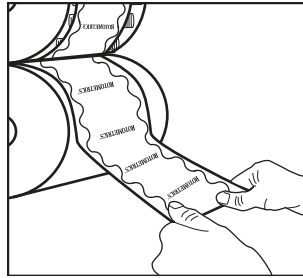

Fig. 4
2. To remove the UniFlex Counter Force carefully peel it off the counter force anvil (Fig. 4). The UniFlex Counter Force is intended for single-use but additional Counter Forces may be ordered at any time. It is important to clean the counter force anvil afterwards with isopropyl alcohol to remove any tape residue and then properly store the counter force anvil.